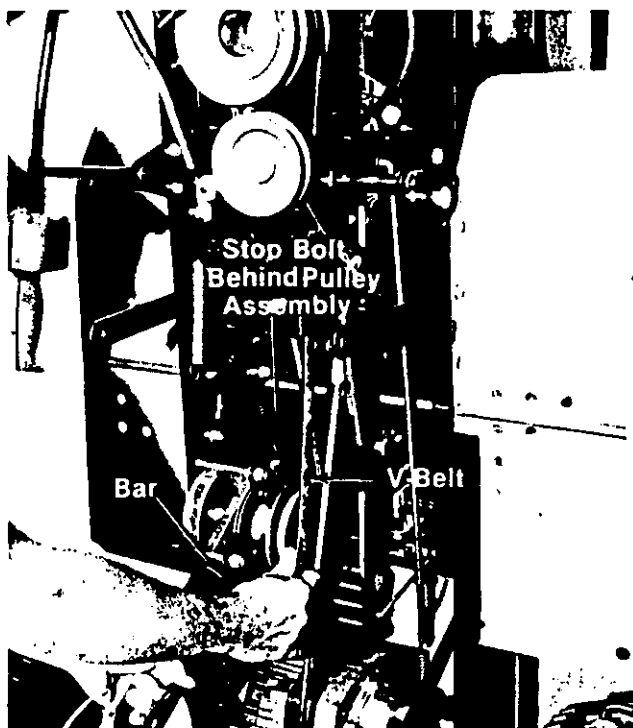

FIGURE 22.
- Using a bar or large screwdriver, pry the pulley assembly towards the front of the tractor and unhook the belt from the pulley. See figure 22.